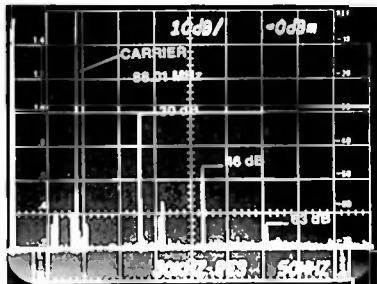

Fig. 52. Checking Harmonics of the Carrier response, noise, and distortion checks.
4. Check for harmonics of the transmitter by checking the predictable harmonic positions (2nd, 3rd, etc.) as shown in figure 52.